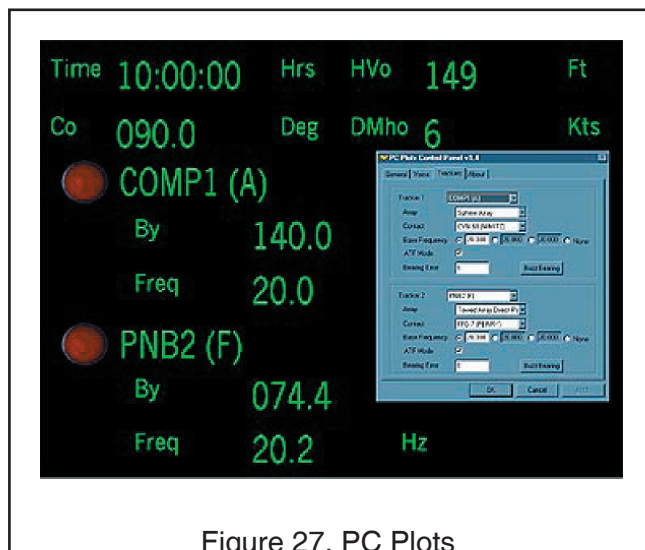

Figure 27. PC Plots
PC Plots was developed to eliminate the need to author new SORAT scenario tapes to be used for training Extended Time Bearing (ETB), Geo and Time Frequency (TF) plotting in the tactical plotting laboratories. It allows an instructor to construct new scenarios very quickly, by using SubScript. Using PC Plots, students can listen to the auditory reports of bearings, faired bearings, and frequencies related to tracked contacts to obtain the data needed to plot on the Geo, TF, or ETB plots. In addition, a Data Display Unit (DDU) is simulated (Figure 27).